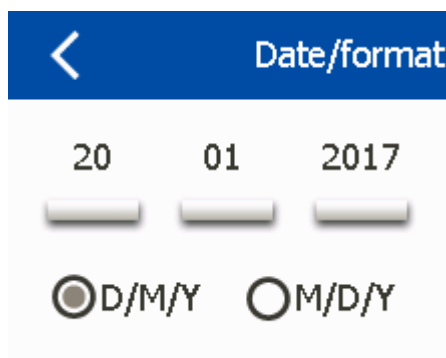

Fig. 77: Setting the date
The 'Date/format' screen (Fig. 77) allows you to set the current date and the date format. Available date formats are day/month/year and month/day/year.
- ⇒ The 'Date/format' screen (Fig. 77) displays.
2. ▶ Enter the current date (Fig. 77).